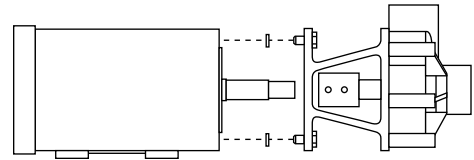

Figure 1
- b. Temporarily bolt the motor adapter to the motor, placing shims (flat washer - item 10) between the motor adapter and the motor using two hex-head cap screws (Item #11) 180° apart (see Figure 1).